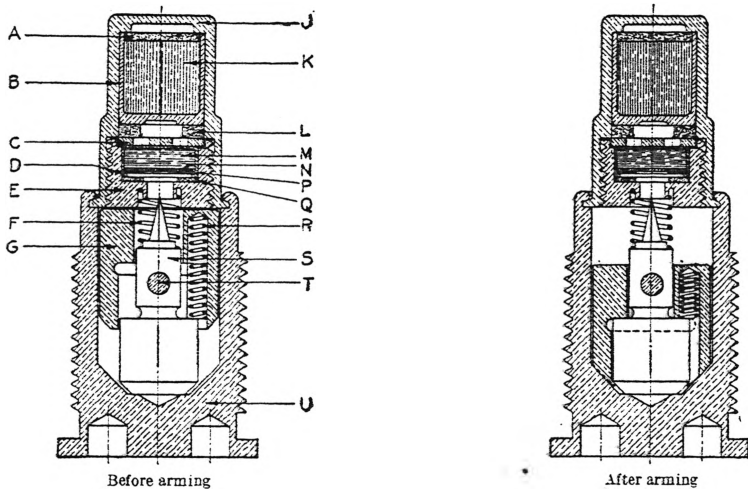

FIGURE 7.—Minor caliber base-detonating fuze, Mk. IV
*b. Base detonating fuze, Mk. IV.*—(1) *Description.*—See paragraph 31, TR 1370-A, and Figure 7.
(2) When the gun is fired, the plunger (G), due to mass inertia or setback,3 compresses the plunger spring (R) and at the same time